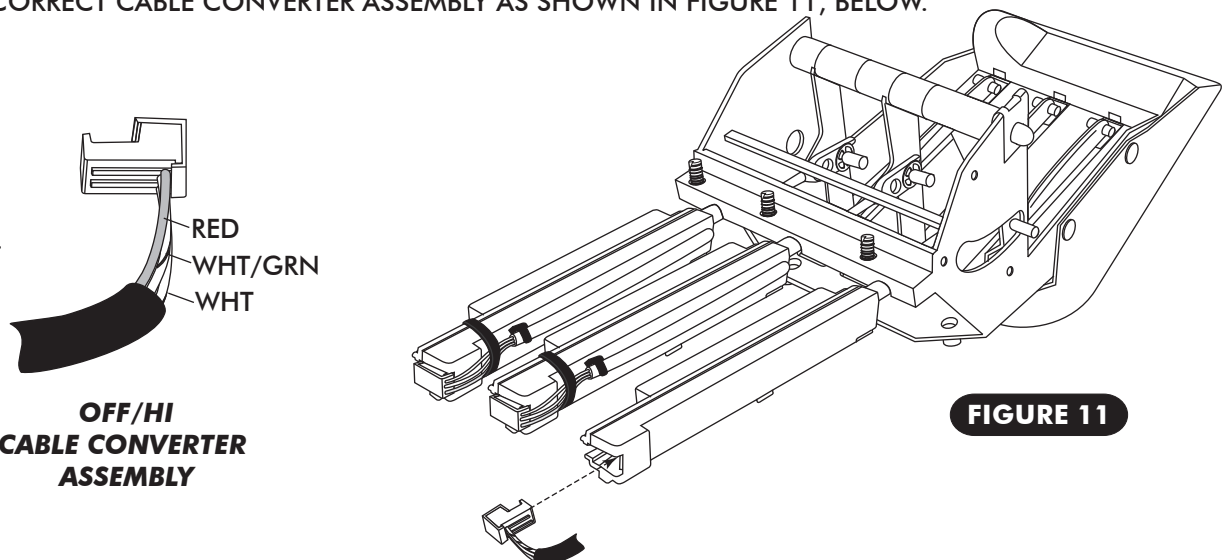

FIGURE 11
- LOCATE THE CONTROL PANEL WIRE HARNESS AND PLUG THE CORRESPONDING WIRES INTO THE CORRECT CABLE CONVERTER ASSEMBLY AS SHOWN IN FIGURE 11, BELOW.